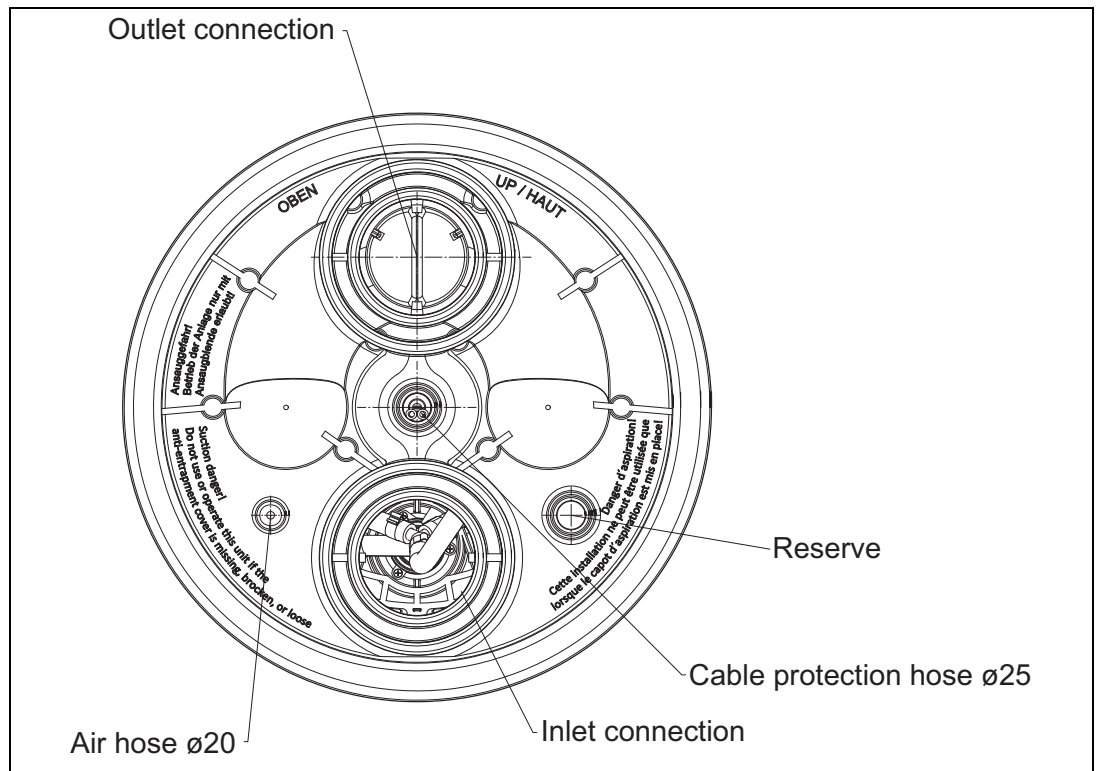

Fig. 9
1. Bonding the cable protective conduit and the outer air hose (*Fig. 9*).